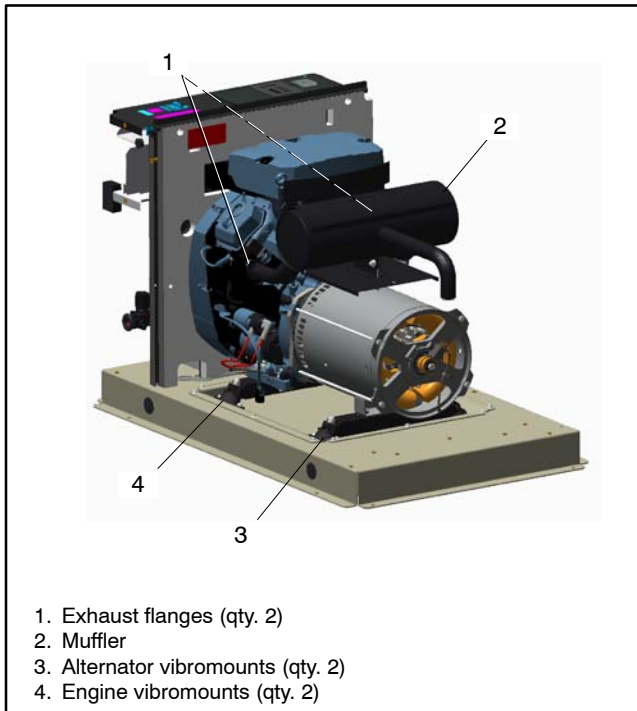

Figure 7-20 Muffler and Vibromounts
17. Disconnect the muffler from the engine at the two flange connections and remove the muffler. See Figure 7-20.
19. Remove the bolts securing the two alternator end vibromounts to the skid. Loosen the two engine vibromounts. See Figure 7-20.